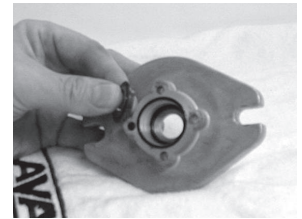

Fig. 9
3. Remove the mechanical seal half and o-ring from the flange. Fig. 9.